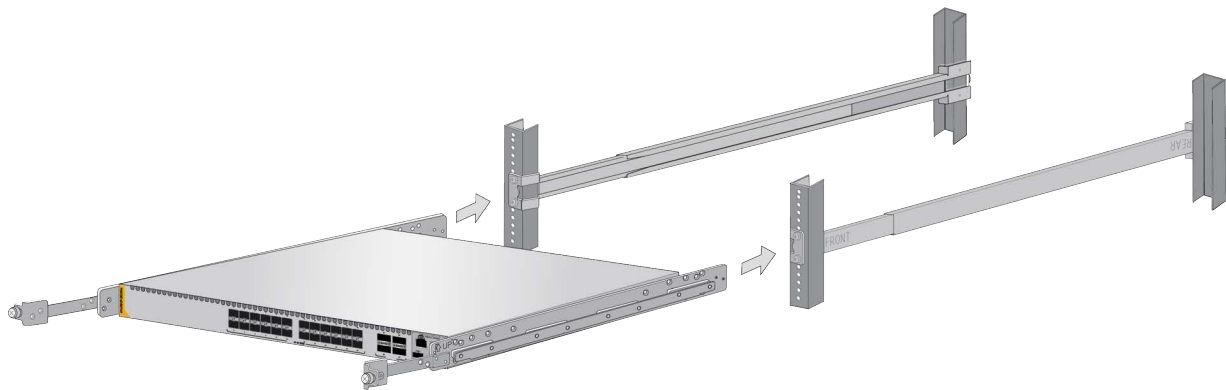

Figure 26. Sliding the Inner Rails on the Switch into the Outer Rails
1. Install the switch in the sliding rack by sliding the inner rails into the outer rail grooves. Refer to Figure 26.